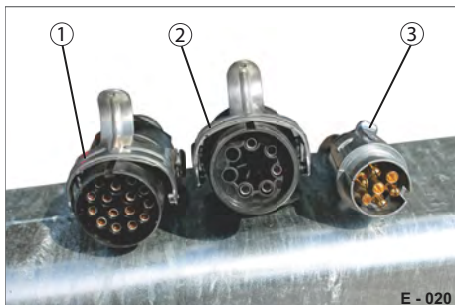

Fig. 21 12 V - 24 V plug
- ▶ Connect the electrical system plug (Fig. 21/1 or 3) and the corresponding EBS plug (Fig. 21/2) for 12 V or 24 V to the towing vehicle.